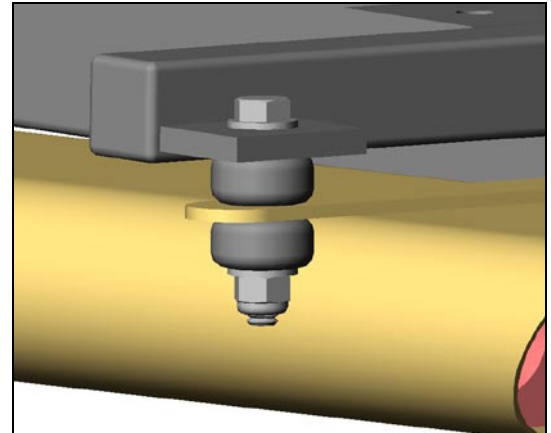

Figure 47
- b. Install exhaust end of mufflers to the muffler mount tabs at rear of Body Frame using supplied hardware listed below. Install hardware as follows: Install 5/16"-18 x 2" L hex head bolts and flat washers from top to bottom, 1 rubber spacer at top and bottom of muffler bracket, one dome washer under rubber spacer and one 5/16"-18 NyLoc nut. Figure 47
- c. Tighten NyLoc nuts securing exhaust end of mufflers until one thread of bolt is visible. Figure 47